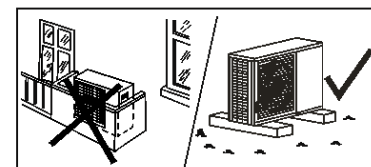

Fig.1
10. Any obstruction of the unit air outlet and intake or any obstacle that is too close (see minimum clearances required). Installation on grassy ground or soft surfaces (in these cases a solid foundation must be included). (fig.1)